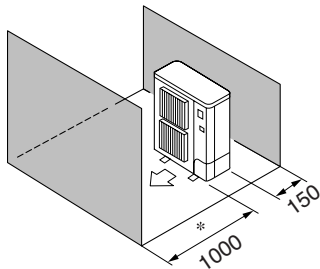

Fig. 3-9
- ⑤ Obstacles at front and rear only (Fig. 3-9)